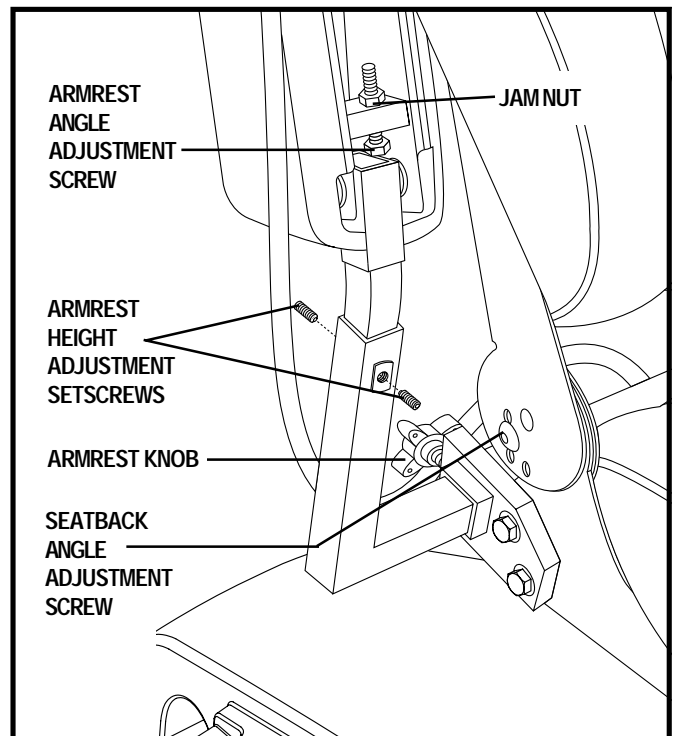

Figure 16. Seatback/ Armrest Adjustment
1. Remove the adjusting screws from each seat hinge. See figure 16.
1. Locate the two armrest knobs on each side of the armrest receiver bracket. See figure 16.
1. Lift the armrest straight up so that it is perpendicular to the floor. See figure 16.